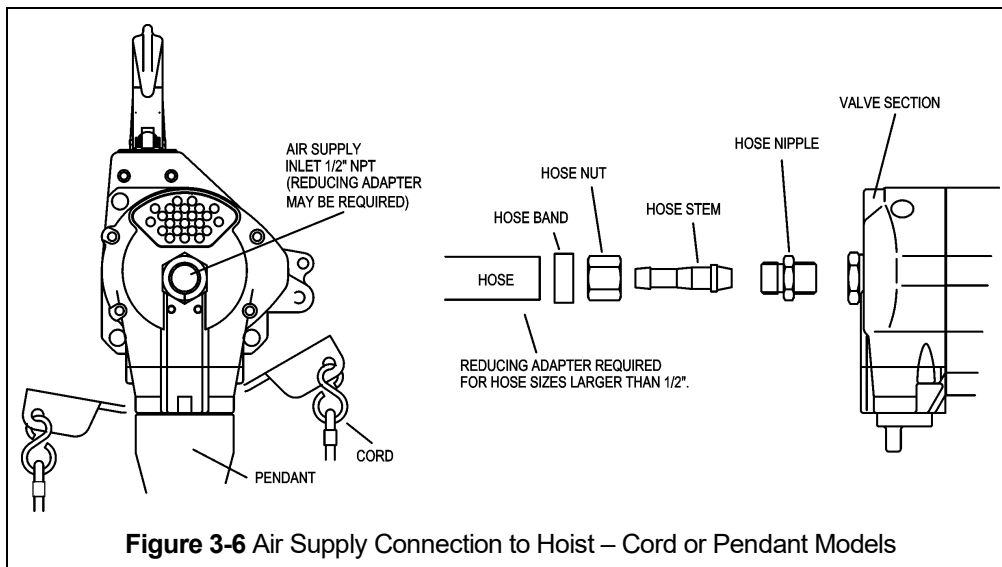

Figure 3-6 Air Supply Connection to Hoist – Cord or Pendant Models
3.11.1 Follow instructions below to install the optional chain container. Refer to Figure 3-6.